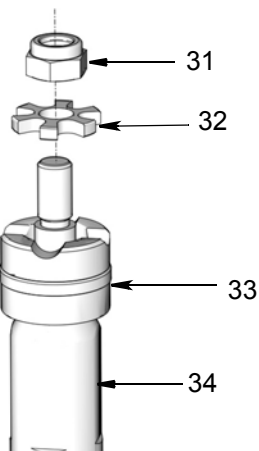
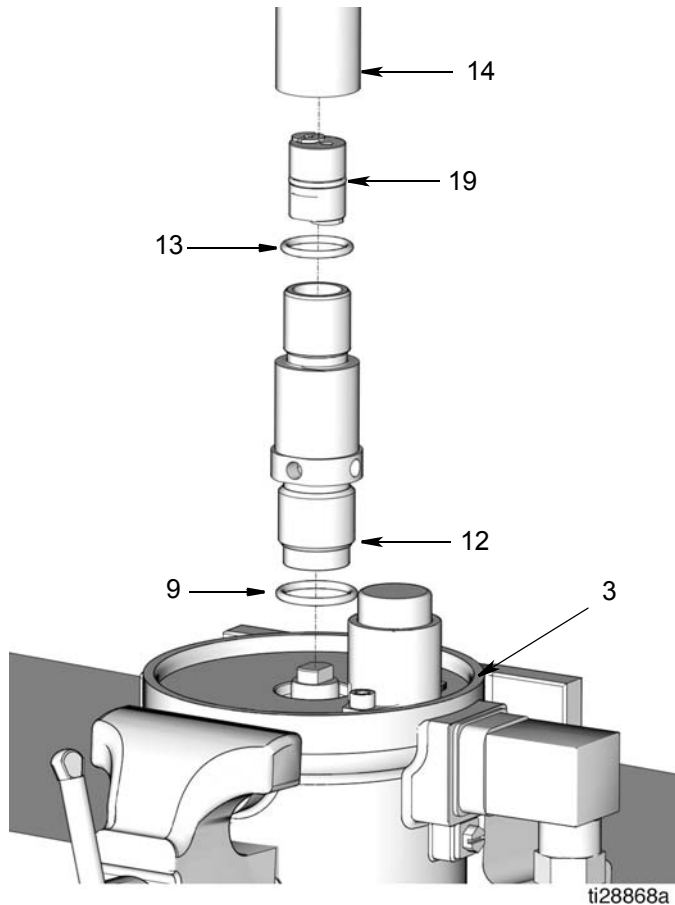

FIG. 37
FIG. 38
14. Install star washer (32) and lock nut (31) on piston rod (34) as shown in FIG. 37.
15. Use a wrench to tighten lock nut (31).
16. Outlet Tube O-ring (13) and Pump Cylinder O-ring (9)
Apply a thin layer of grease to the outlet tube o-ring (13) and the pump cylinder o-ring (9) and install o-rings on the outlet tube (14) and pump cylinder (12) (FIG. 38).